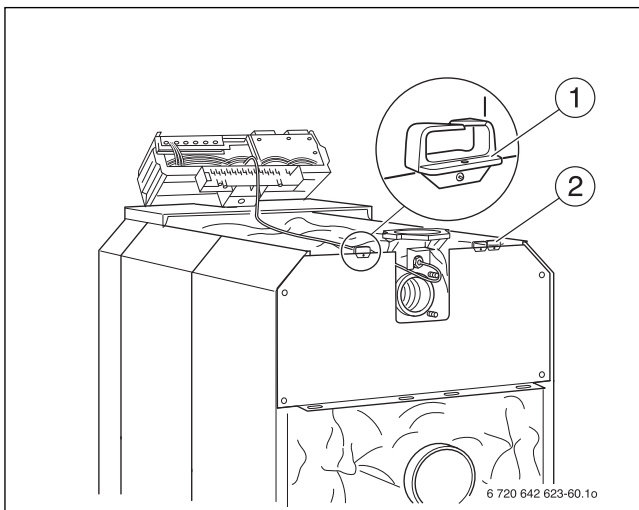

Fig. 63 Making the electrical connections
- ▶ Screw cable entry (→ Fig. 63, [1 and 2]) to the left and right of the rear boiler panel.